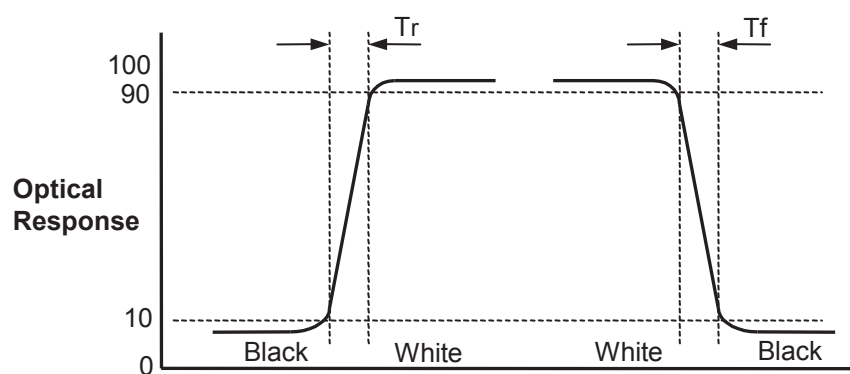

FIG. 11 Response Time
4. Response time is the time required for the display to transit from G(255) to G(0) (Rise Time, Tr_R) and from G(0) to G(255) (Decay Time, Tr_D). For additional information, see the FIG. 11.